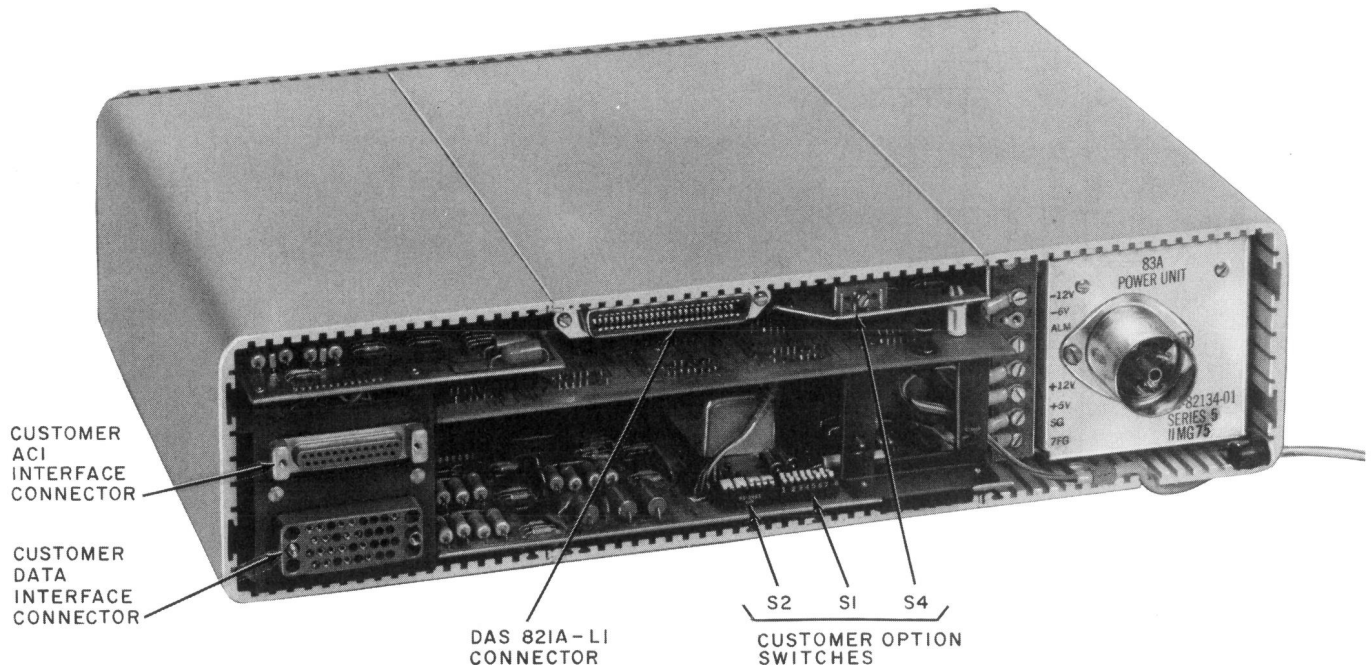

Fig. 3—501A-Type DSU—Rear Internal View
**2.08** All customer data interface leads of a DSU operating at 9.6 kb/s and the ACI leads of both the 9.6- and 56-kb/s DSUs are terminated in a 25-pin connector. CPE used with this DSU must be terminated in a Cinch or Cannon DB-19604-432 or AMP 205784-1, or equivalent, plug and a Cinch DB-51226-1 hood, or equivalent. A DSU operating at 56 kb/s uses a 34-pin connector for the data interface leads. CPE used with a 56-kb/s DSU must be terminated in a Winchester MRA-34P-JTC6-H8, Burndy MS 34PM-124, AMP 5-202431-2, or equivalent. Refer to Fig. 3 for customer interface location.